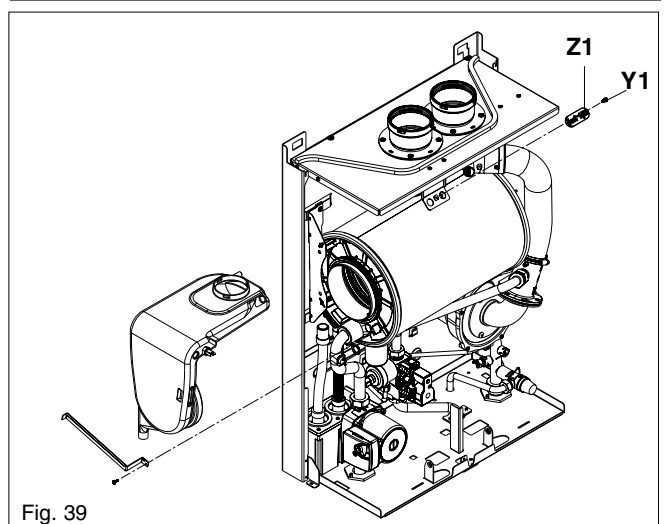

Fig. 39
6.20 FLUE COLLECTOR REMOVAL (fig. 39)
Isolate the appliance from the electrical supply and remove the appliance casing as described in 4.7.1. Set the flue gas analyser to read CO₂ and insert the probe into the flue analysis test point (Y1-Z1 fig. 39). Restore the electrical supply to the boiler and switch the boiler to the OFF mode.